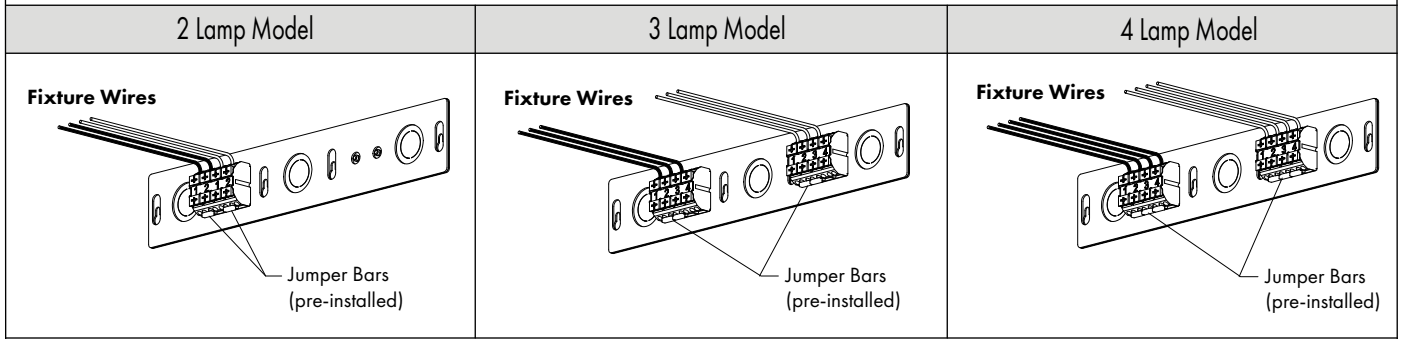

FIG 5.1 Jumper Bars
1. Ensure jumper bars are installed in terminal blocks as shown - FIG 5.1.